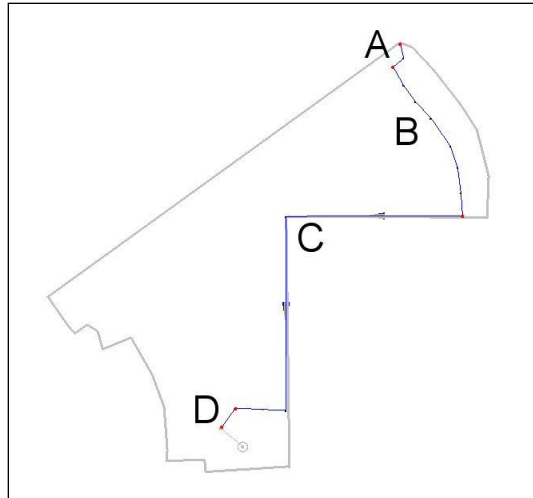

Figure 2 Time computation arcs
The arc has been split into four different segments to assign different equations for determining the travel time for the arc. The different equations assigned to the different arc segments represent different runoff flow types such as sheet flow, shallow concentrated flow, and channel flow. Use Figure 2 as a guide while defining the equations.
3. Using the **Select Feature Arc** tool, double-click on the arc labeled “A” in Figure 2 to bring up the *Time Computation Arc Attributes* dialog.
10. Using the **Select Feature Arc** tool, double-click on arc B (see Figure 2) to bring up the *Time Computation Arc Attributes* dialog.
14. Repeat steps 10–13 for arc D (see Figure 2) but enter “NO” as the *Variable value* for the “Paved” line in the *Variables* section.
15. Using the **Select Feature Arc**  tool, double-click on arc C (see Figure 2) to bring up the *Time Computation Arc Attributes* dialog.